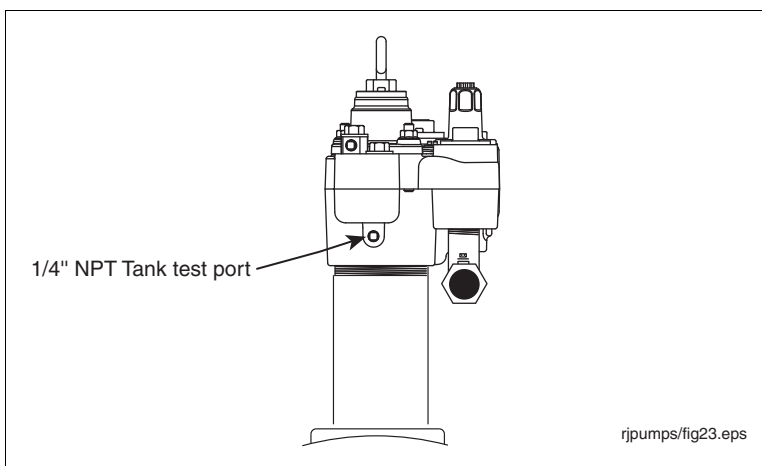

Figure 25. Tank Test Port On Manifold
2. Remove and save the 1/4 " NPT tank test port plug and attach tank testing equipment (see Figure 25).